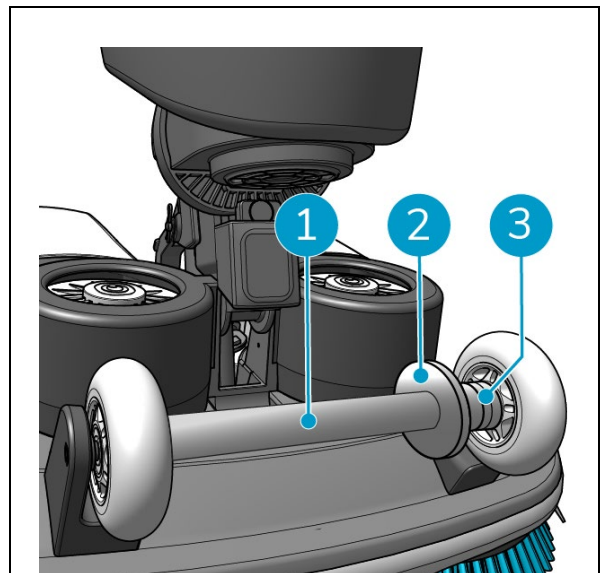

Figure 16
4. Place the steel bar (Figure 16, pos. 1) between the two wheels of the i-mop XL and tighten the small ring (Figure 16, pos. 3).
5. Tighten the large ring (Figure 16, pos. 2) to secure the connection.